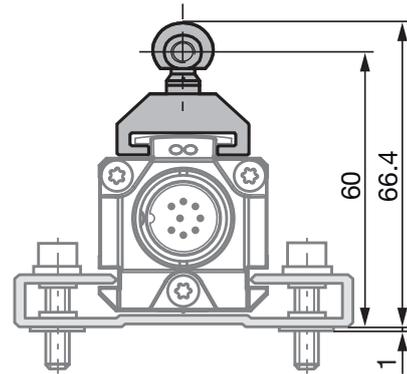
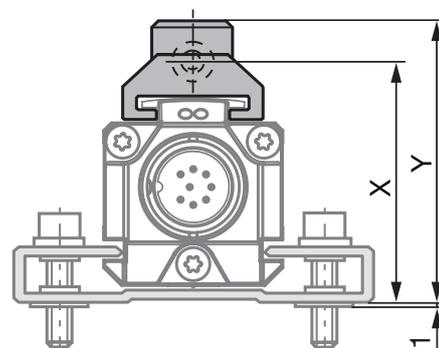
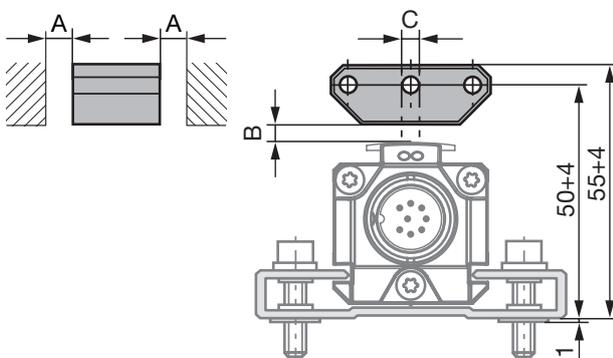
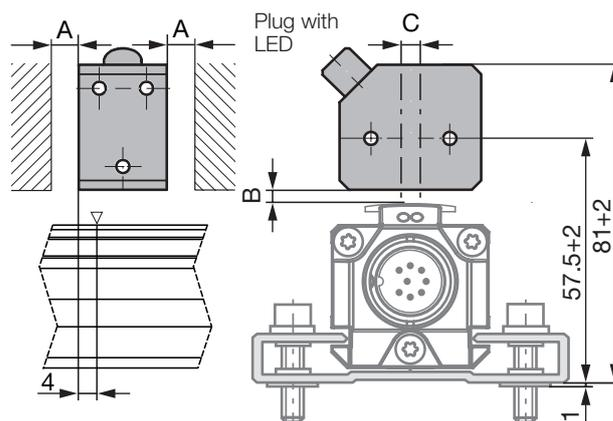

Fig. 4-1: Dimensions and distances with BTL5-F-2814-1S magnet
Fig. 4-3: Dimensions and distances with BTL5-M/N-2814-1S magnet
Fig. 4-4: Dimensions and distances with BTL5-P-3800-2 magnet
Fig. 4-8: Dimensions and distances with BTL5-P-4500-1 electromagnet (24 V/100 mA)
i The BTL in profile housing is suitable both for floating, i.e. non-contacting magnets (see Fig. 4-4 to Fig. 4-8), and for captive magnets (see Fig. 4-1 to Fig. 4-3).
- Ensure that the distance A between the magnet and parts made of magnetizable material is at least 10 mm (see Fig. 4-4 to Fig. 4-8).
- Maintain the following values for distance B between the magnet and BTL and for center offset C (see Fig. 4-4 to Fig. 4-8):
i The measuring range is offset by 4 mm towards the BTL plug (see Fig. 4-8).